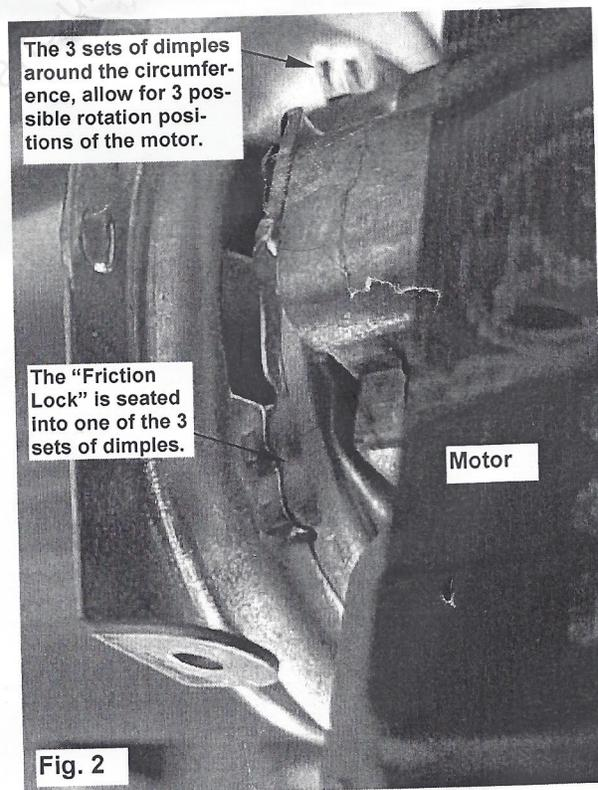

Fig. 2
1. The motor is held in position with a friction lock (see Fig. 2) which seats into one of 3 sets of dimples on the housing. To rotate, grasp the motor and housing and twist the motor clockwise approximately $\frac{1}{4}$ " until the friction lock releases from the dimples (the dimples where the friction lock was seated should now be visible in the opening). Pull the motor out approximately $\frac{1}{4}$ " and continue rotating until the electrical terminals on the motor are in the same position as the blower assembly you are replacing.